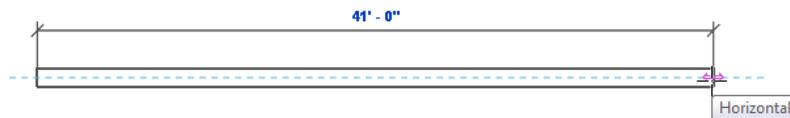

Figure 3-33 The sketched horizontal wall with its controls
5. Move the cursor to the right until the temporary dimension shows a value more than 40'- 0"(12192 mm), as shown in Figure 3-33. Click at this location as the endpoint of the wall segment and press ESC twice; the wall is created. Note that, if the dimension is not displayed, you need to click on the created wall to display the dimension. Press ESC.